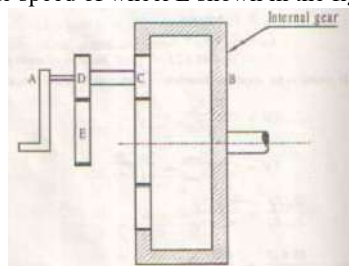

Fig. 4.3
3. A fixed annular wheel B has 92 teeth. Wheel C and D have 25 and 15 teeth respectively. Wheel E has 52 teeth, if the arm A rotates at 130 rpm, what is the speed of wheel E shown in the figure 4.3.(solve it by algebraic method)